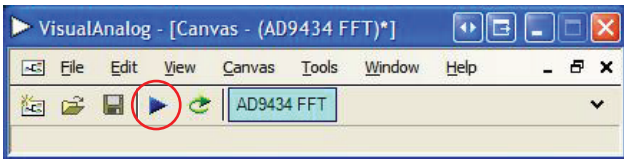

Figure 12. Run Button (Encircled in Red) in the VisualAnalog Toolbar, Collapsed Display
- Click the **Run** button in the **VisualAnalog** toolbar (see Figure 12).